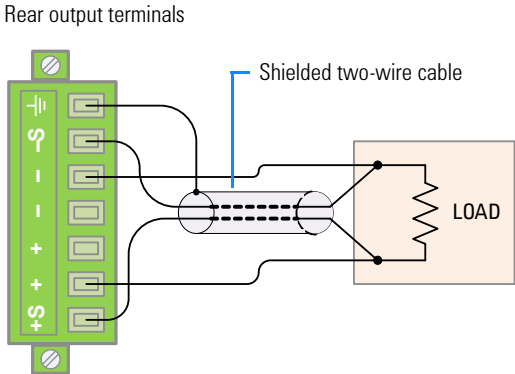

Figure 3-1 Remote sensing connections
- 4 Loosen the top screws with a slotted screw driver and connect the rear output terminal block sensing (S+ and S-) and output (+ and -) terminals to the load as shown in Figure 3-1 using a shielded two-wire cable.
The sensing outputs (S+ and S-) must not be left unconnected. It must be connected locally (Figure 3-2) or remotely (Figure 3-1).
- 2 Remove the connections between the U3606B sensing (S+ and S-) and output (+ and -) terminals. Using a shielded two-wire cable, connect the U3606B sensing terminals to the load as shown in Figure 3-1. Observe the polarity when connecting the sensing leads to the load.